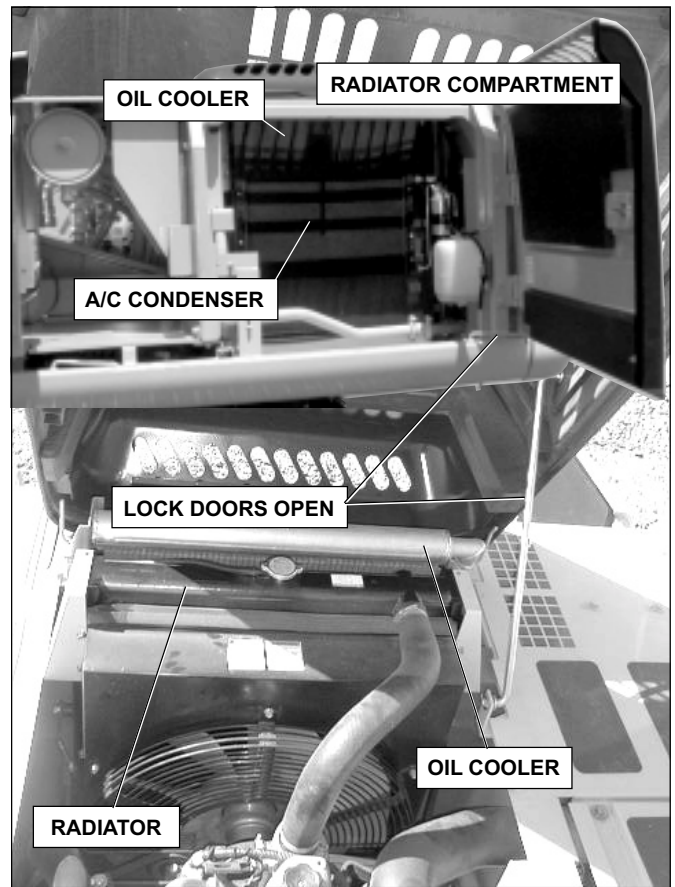

FIGURE 4.27A
1. Open radiator compartment door and engine cover to clean the radiator and oil cooler. See Figure 4.27A. Make sure to lock doors open.